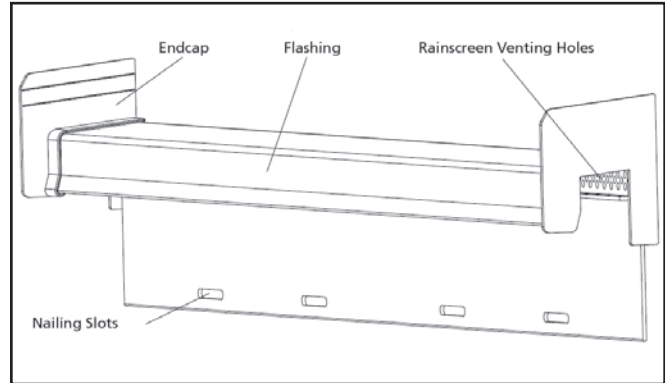

Figure 6. The below-window flashing directs water to the exterior.
- Below-window flashing (see Figure 6);